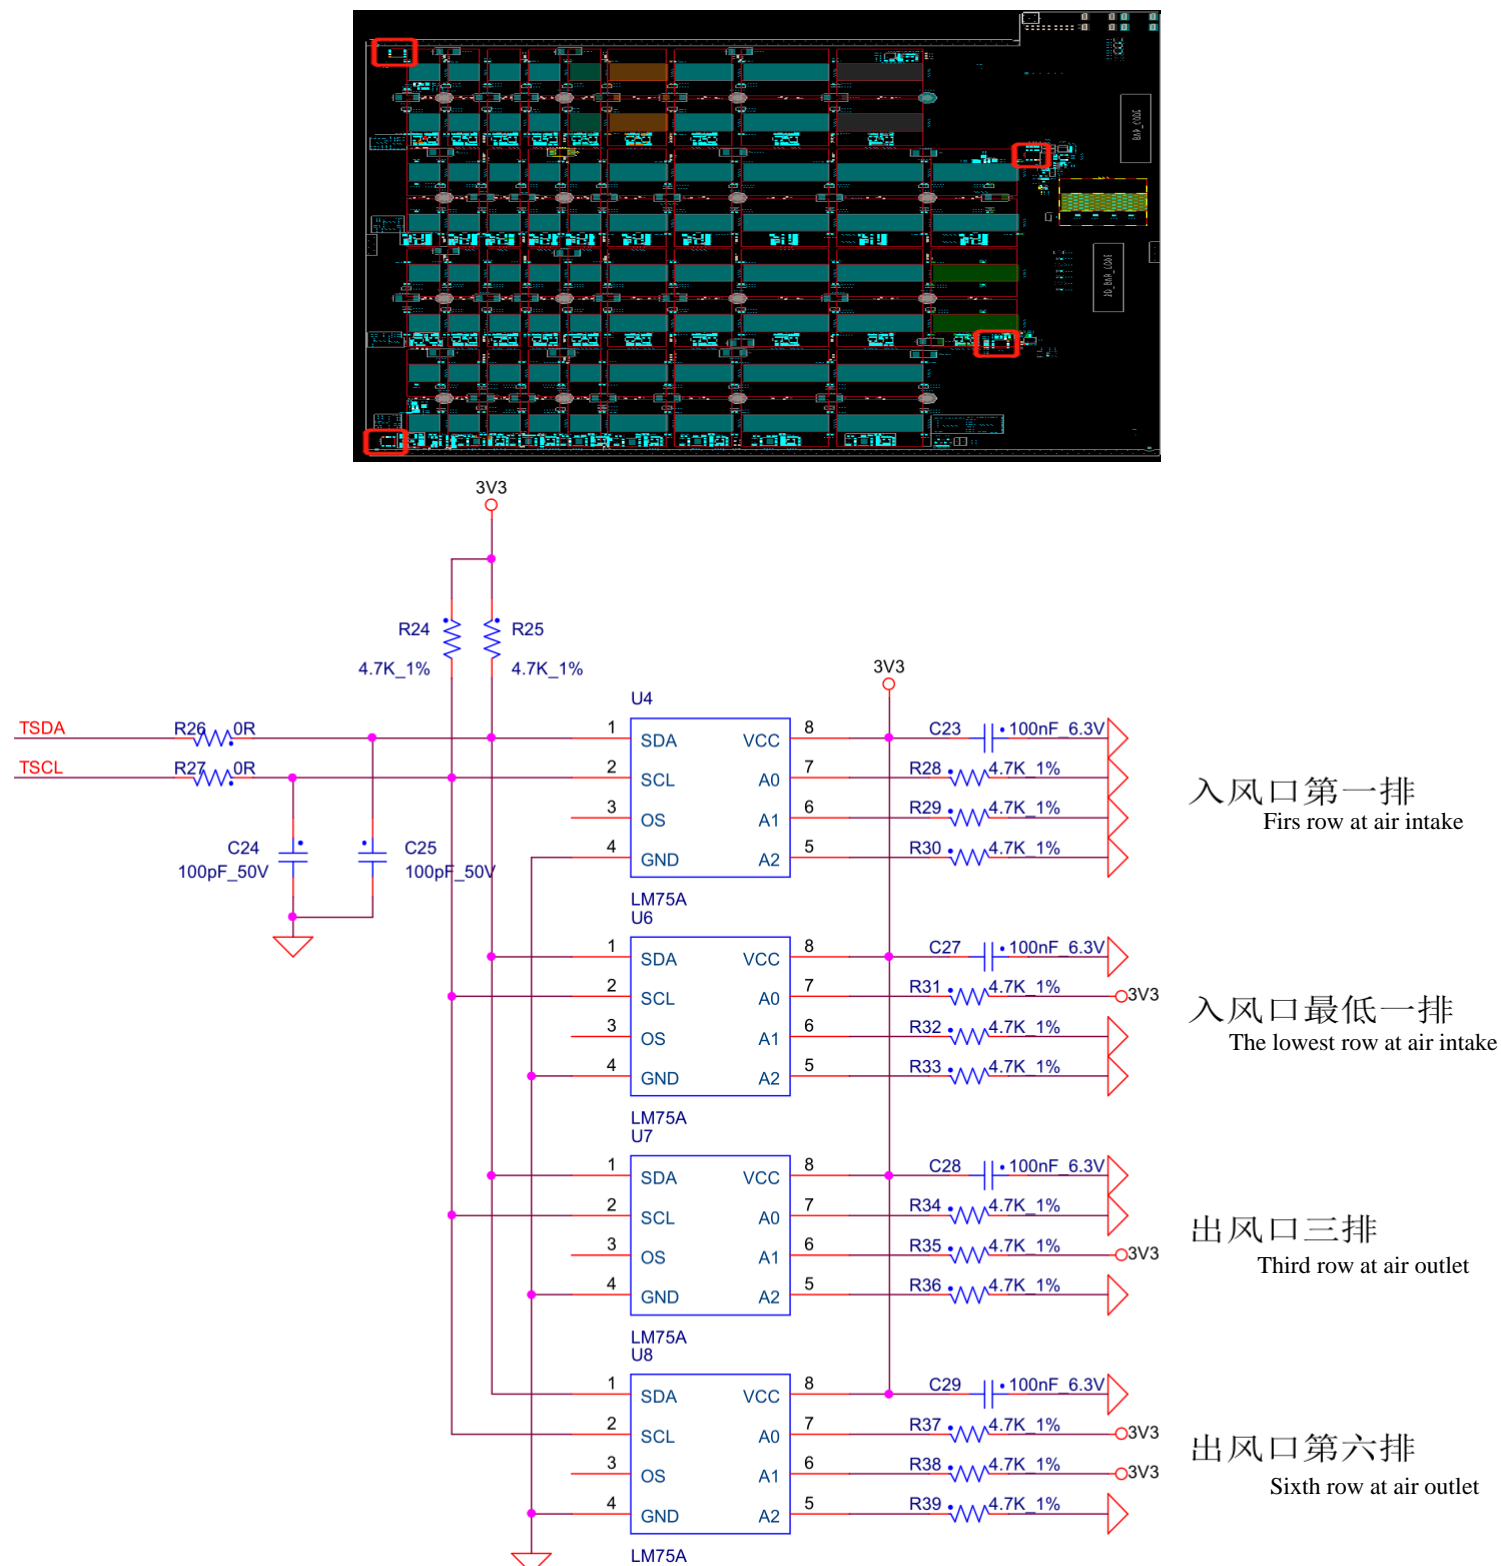

Figure 5-14
B) Check whether the four temperature senses U4, R28~R30, U6, R31~R33, U7, R34~R36, U8, R37~R39 and the matching resistance welding are abnormal, the location of the temperature sense is shown in Figure 5-14, the temperature sense is all located on the back of the PCB, the resistance is located on the front of the PCB, and whether the temperature-sensitive 3.3V power supply is normal;